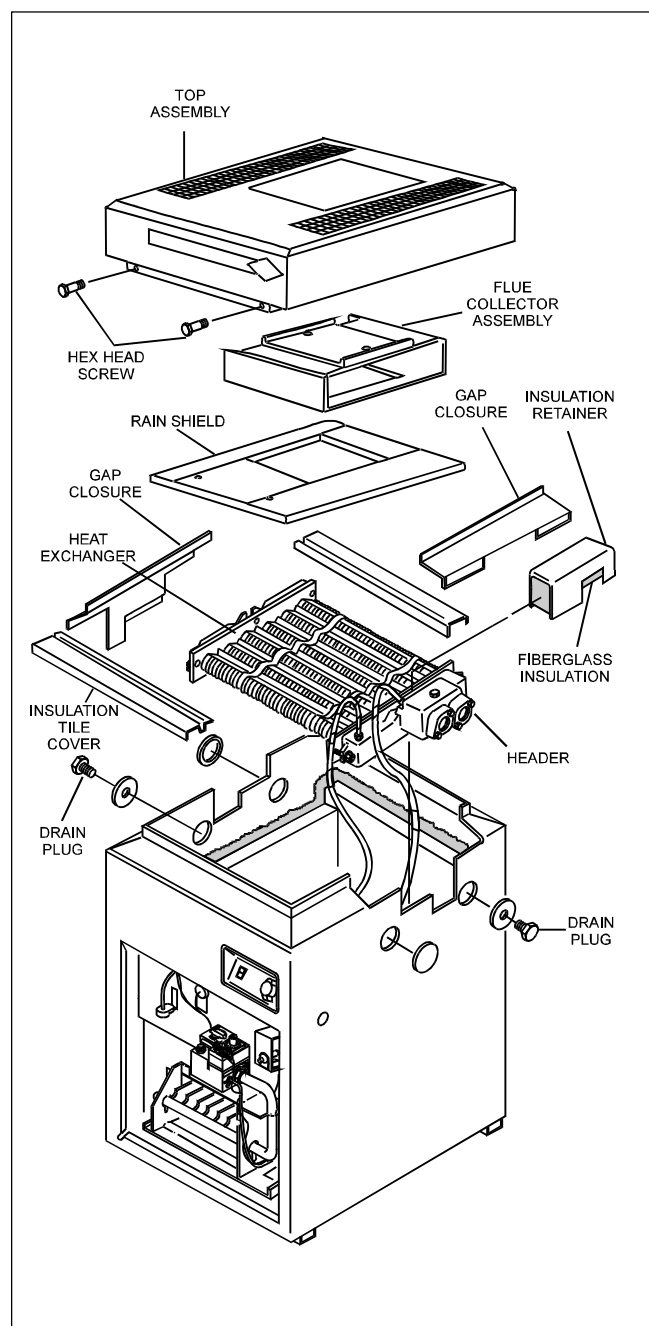

Figure 10. Heat Exchanger Reversal
3. Remove all hex-head screws fastening the top and lift the top assembly straight up (see Figure 10).
9. Remove the three jacket/plug grommets and drain plugs (see Figure 10). One set is located under the water connections on the right side. The other is on the left side toward the front of the heater.